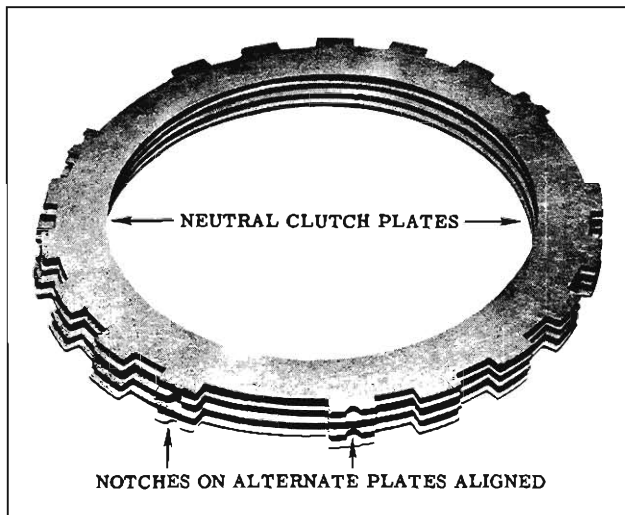

Fig. 6-92 Clutch Plate Alignment
- a. Position every other steel plate so that the notched lug is on the opposite side of the wide space. The steel plates must be installed one above the other in this arrangement to properly un-nest the clutch pack. (Fig. 6-92)